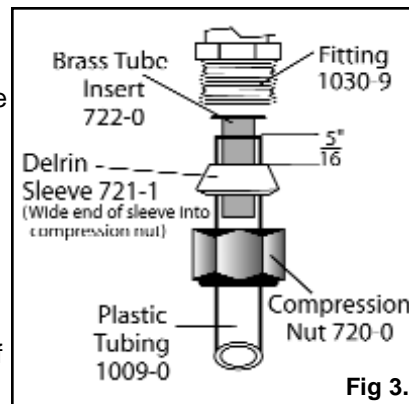

Fig 3.
Measure and cut a length from plastic tubing (1009-0) to connect faucet to the OUTLET fitting (2554). Make sure to leave enough tube for step 6. Slide compression nut (720-0) and sleeve (721-1) onto tube and put tube insert (722-0) into tube as shown in **Fig. 3**. Push tube into end of faucet adaptor (1040-15) and hold firmly in place. Now tighten nut securely with a wrench. Connect the other end of tubing to OUTLET fitting (2554) as shown in **Fig. 2**.
- Measure and cut remaining length of plastic tubing to connect cold water line to INLET fitting (2553). Slide compression nut (720-0) and sleeve (721-1) onto tube and put brass tube insert (722-0) into tube as shown in **Fig. 3**. Push tube into end of saddle clamp fitting (1008-0) and hold firmly in place. Securely tighten the compression nut while holding other end of fitting with a wrench. Connect other end of tubing to INLET fitting (2553) as shown in Fig.2.